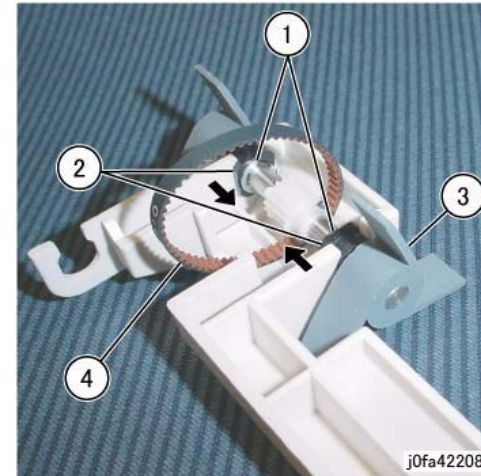

Figure 8 Removing the Paddle Belt
11. Remove the Paddle Belt (Figure 8):